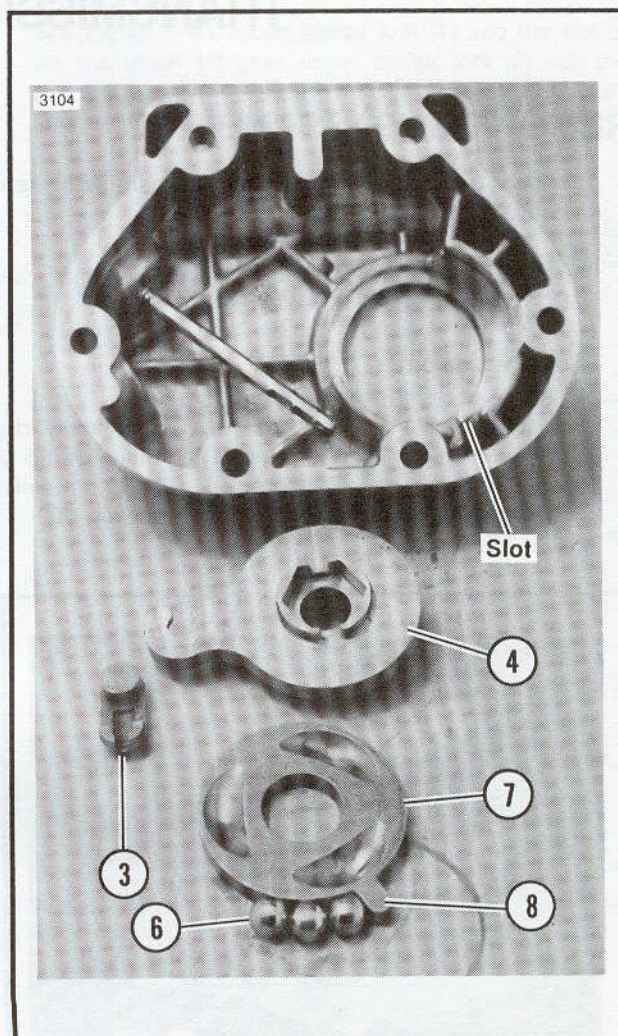

Figure 7-13. Ball and Ramp Mechanism Removed From Side Cover
2. See Figure 7-13. Place outer ramp (7) in side cover and place balls (6) in slots. Be sure tang (8) is in side cover slot.